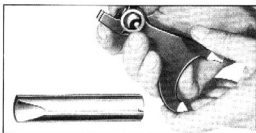

Fig. 23—Depressing Lock Ball
2. In assembling the shifter forks to the shafts, first place the shift lock spring and ball in the fork. With the special tool shown in Fig. 23 force the ball down on the spring in the fork, then turn the tool one-half turn to hold the ball in position. This tool holds the shift lock ball and prevents it from jumping out while the shaft is being installed.